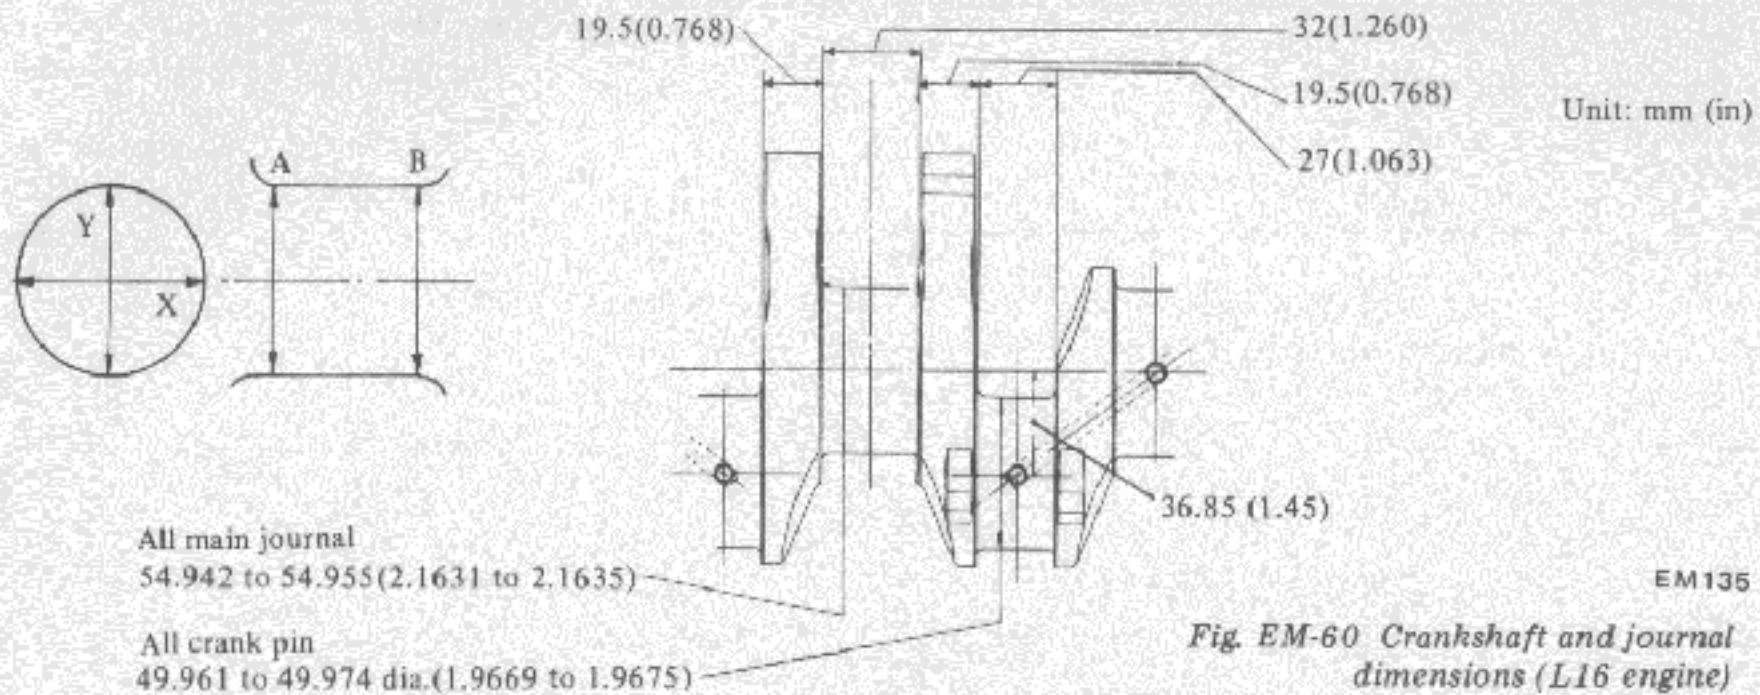

Fig. EM-60 Crankshaft and journal dimensions (L16 engine)
2. Check with a micrometer journals and crank pins for taper and out-of-round. Measurement should be taken along journals for taper and around journals for out-of-round. See Figure EM-60 for detail information.